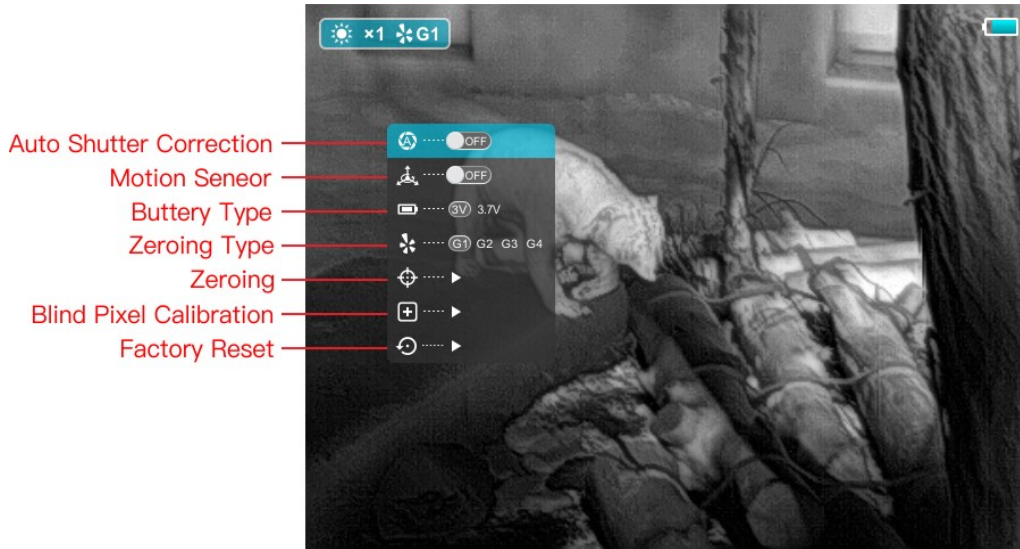

Fig.3 Advanced Menu
- In the normal mode, press and hold the **M button** to enter the advanced menu, which including Auto shutter correction, motion sensor, battery type, zeroing type, zeroing, blind pixel calibration and factory reset. (As shown in fig. 3)